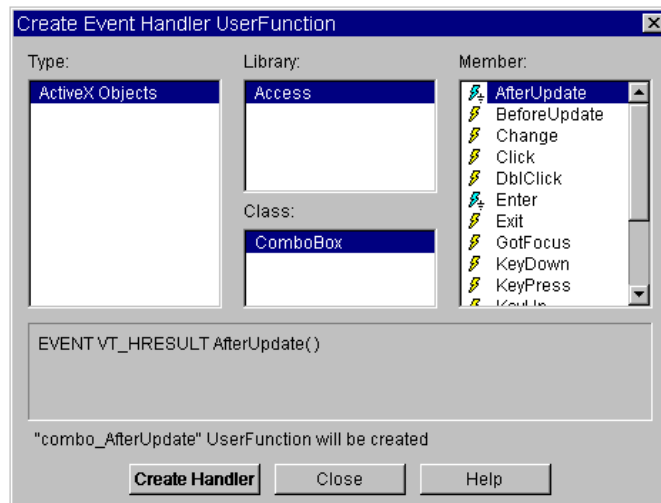

Figure 13-6. Create Event Handler UserFunction browser
2. In the object menu, click `Create Event Handler...` The `Create Event Handler UserFunction` browser appears. See Figure 13-6